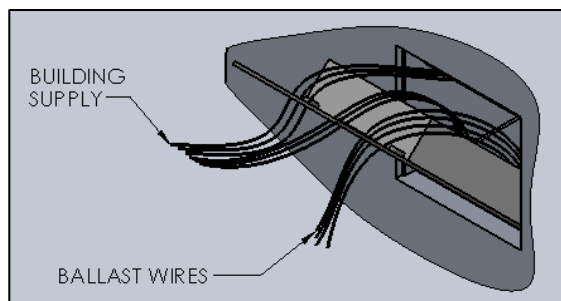

FIG. 19 - DETAIL SHOWING BUILDING SUPPLY AND
10. Make BUILDING SUPPLY wire connections and tuck them into the top section of the box leaving the DRIVER WIRES out as shown in FIG. 19. Make all wire connections in the inside the junction box (by others) in accordance with the NATIONAL ELECTRICAL CODE and all applicable LOCAL AND STATE CODES.